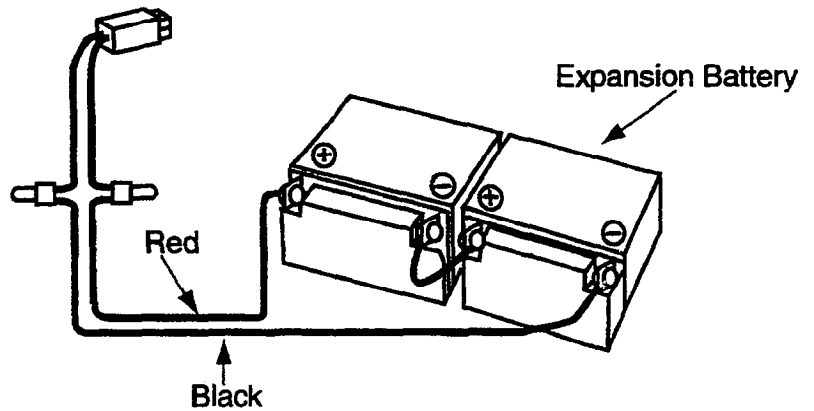

Figure 2-19 Connecting Expansion Batteries
1. Take out the original batteries and disconnect the cords from the batteries. Refer to Figure 2-19 - Connecting Expansion Batteries.